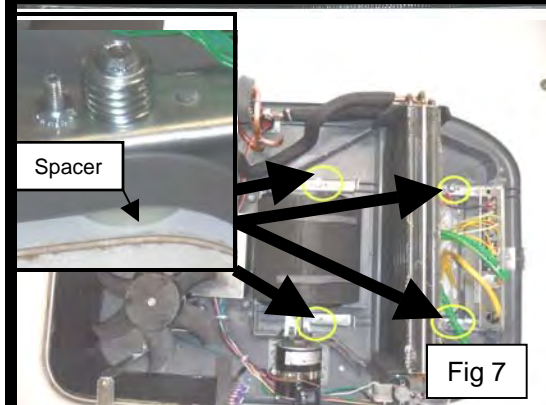

Fig 7
6. There should be one (1) spacer p/n 178426-01-000 under each of the two (2) front mounting locations. Reinstall lag bolts w/springs, washers and tighten just to the point where the springs are compressed (fig 7).